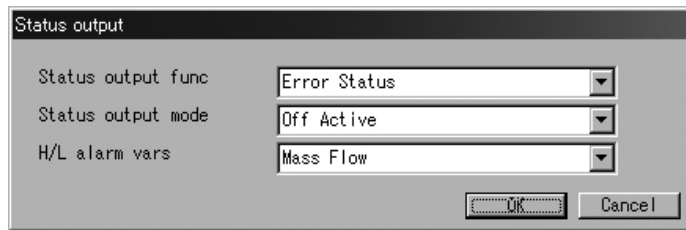

Fig.38
- ① Click on "Setup (S)" at top-level menu of the screen, select "Status output" from "Config output" drop-down list, and click on again.
- ② A message box as shown in Fig. 38 appears. Status output function is set up at this window.